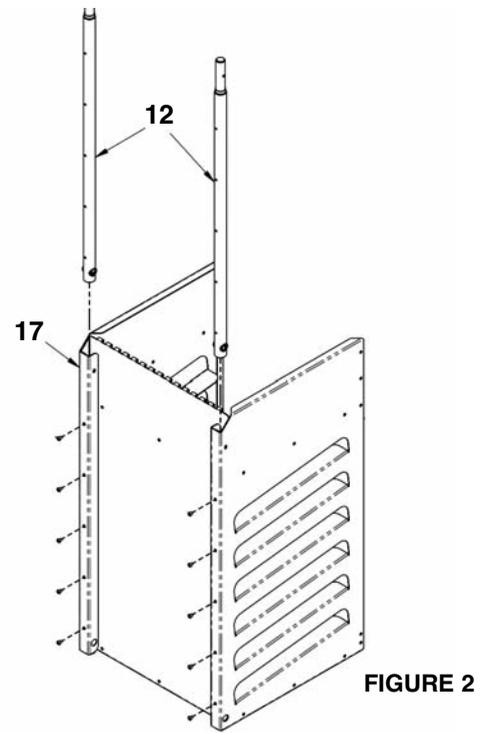

FIGURE 2
2. Slide the two long handle bar support tubes (#12) into the channel of both the right and left side panels (#1 & #2) as shown in figure 2. Making sure the axle support sleeve in the end of the tube goes down and the threaded holes are facing out. Secure the back and side panel to the handle bar support tubes with ten #10-32 x 5/16" screws (#17). Do not fully tighten.